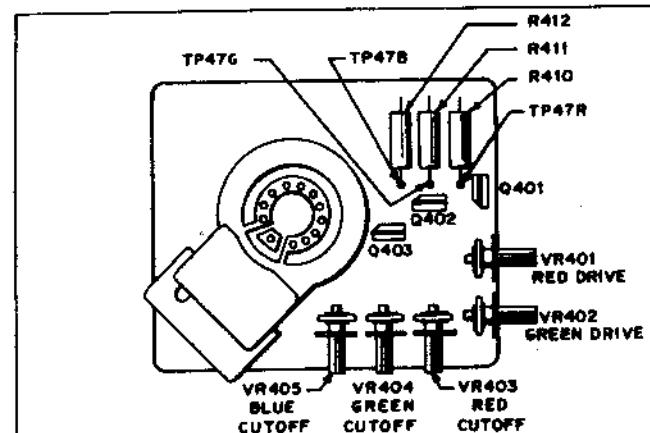
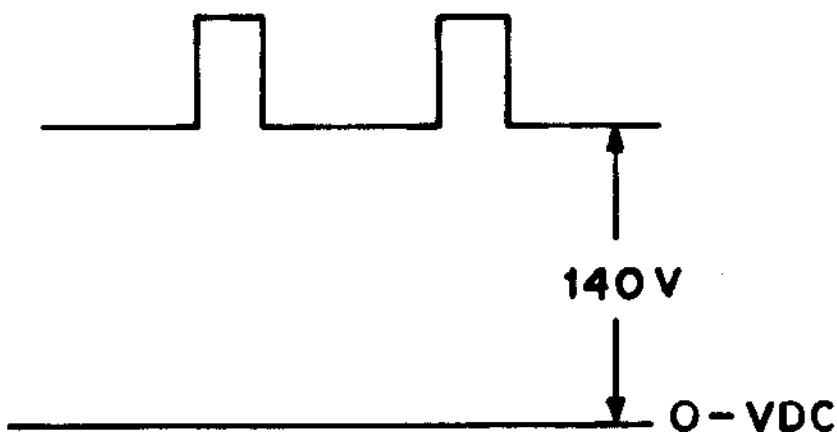

FIGURE 3: Component Side of Neck Board
FIGURE 10
- 2.6 Turn the Green Cut off Control (VR404) on the Neck Board fully CW. (See Fig. 3)
- 5.6 Connect the oscilloscope, multimeter, or VOM, to the collector of a video output transistor (Q401, Q402, or Q403) on the CRT neck PCB at TP47R, TP47G, or TP47B as shown in Fig. 3.
- 5.7 Adjust the black level control (VR201) to obtain the waveform shown in Fig. 10 or a +150 volt DC reading on the multimeter or the VOM.
- 5.13 With the oscilloscope, multimeter, or VOM connected to the collector of the lead color video output transistor (See Fig. 3), adjust the black level control to obtain the waveform in Fig. 10 or a +150 volt DC reading on the multimeter or VOM.